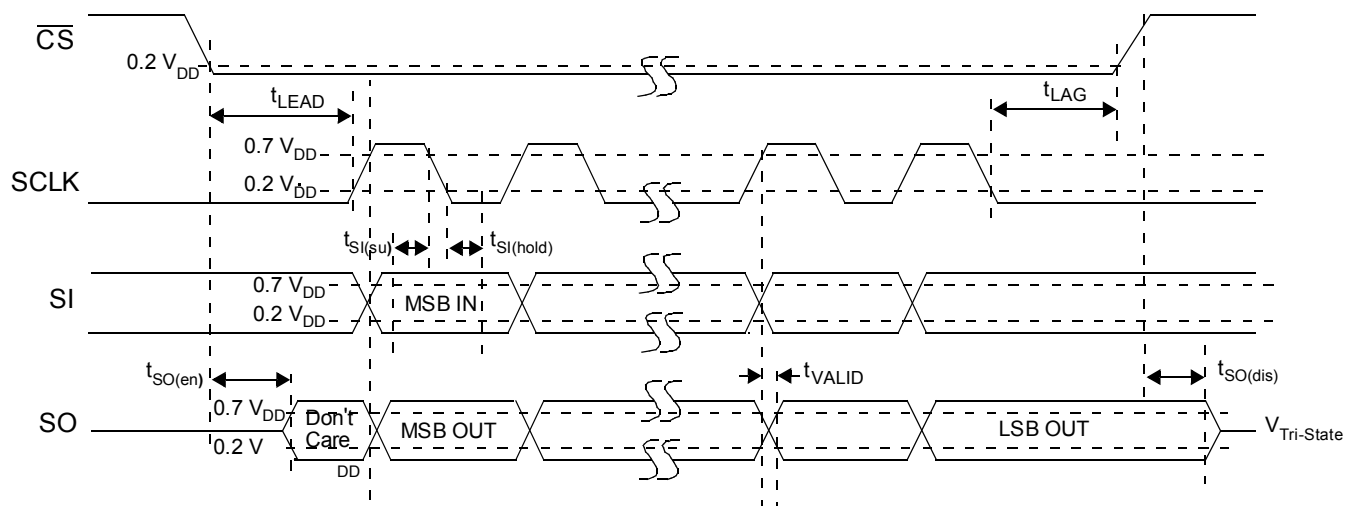

Figure 4. SPI Timing Characteristics
The Serial Input (SI) pin is used to enter one of seven serial instructions into the 33999. SI SPI bits are latched into the Input Shift register on each falling edge of SCLK. The Shift register is full after 24 bits of information are entered. The 33999 operates on the command word on the rising edge of  $\overline{\text{CS}}$ . To preserve data integrity, exercise care to not transition SI as the SCLK transitions from high-to-low state (see Figure 4, page 9).